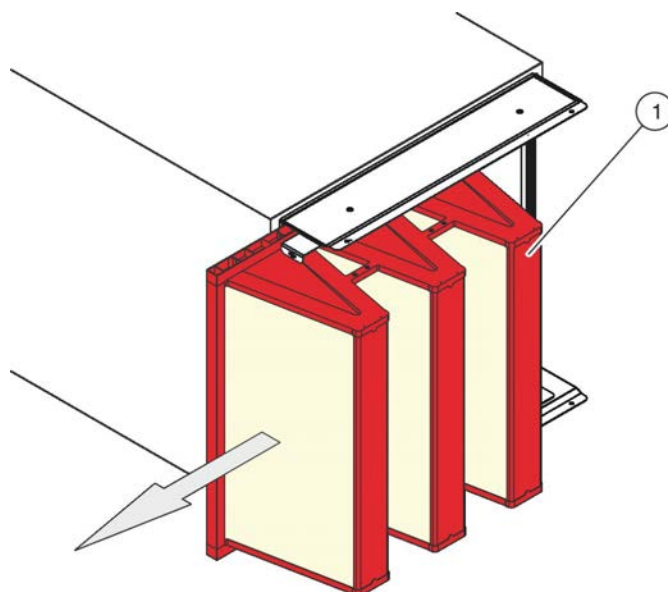

Fig. 60: Removing the filter element
5. ▶ Pull out the filter element (Fig. 60/1) sideways.